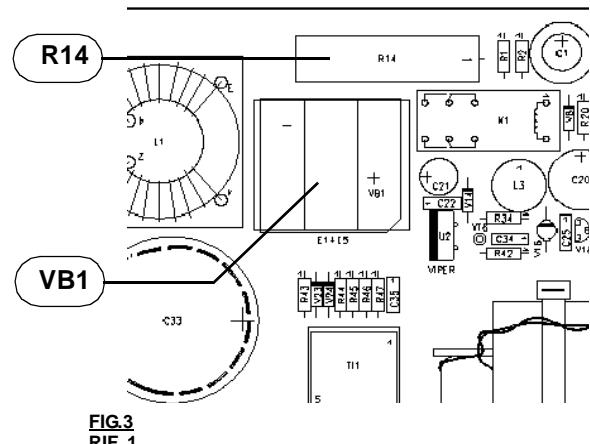

FIG.3
- Check for the presence of short circuits on the rectifier bridge (VD1) and the correct value of the power resistance (R14) (fig. 3).